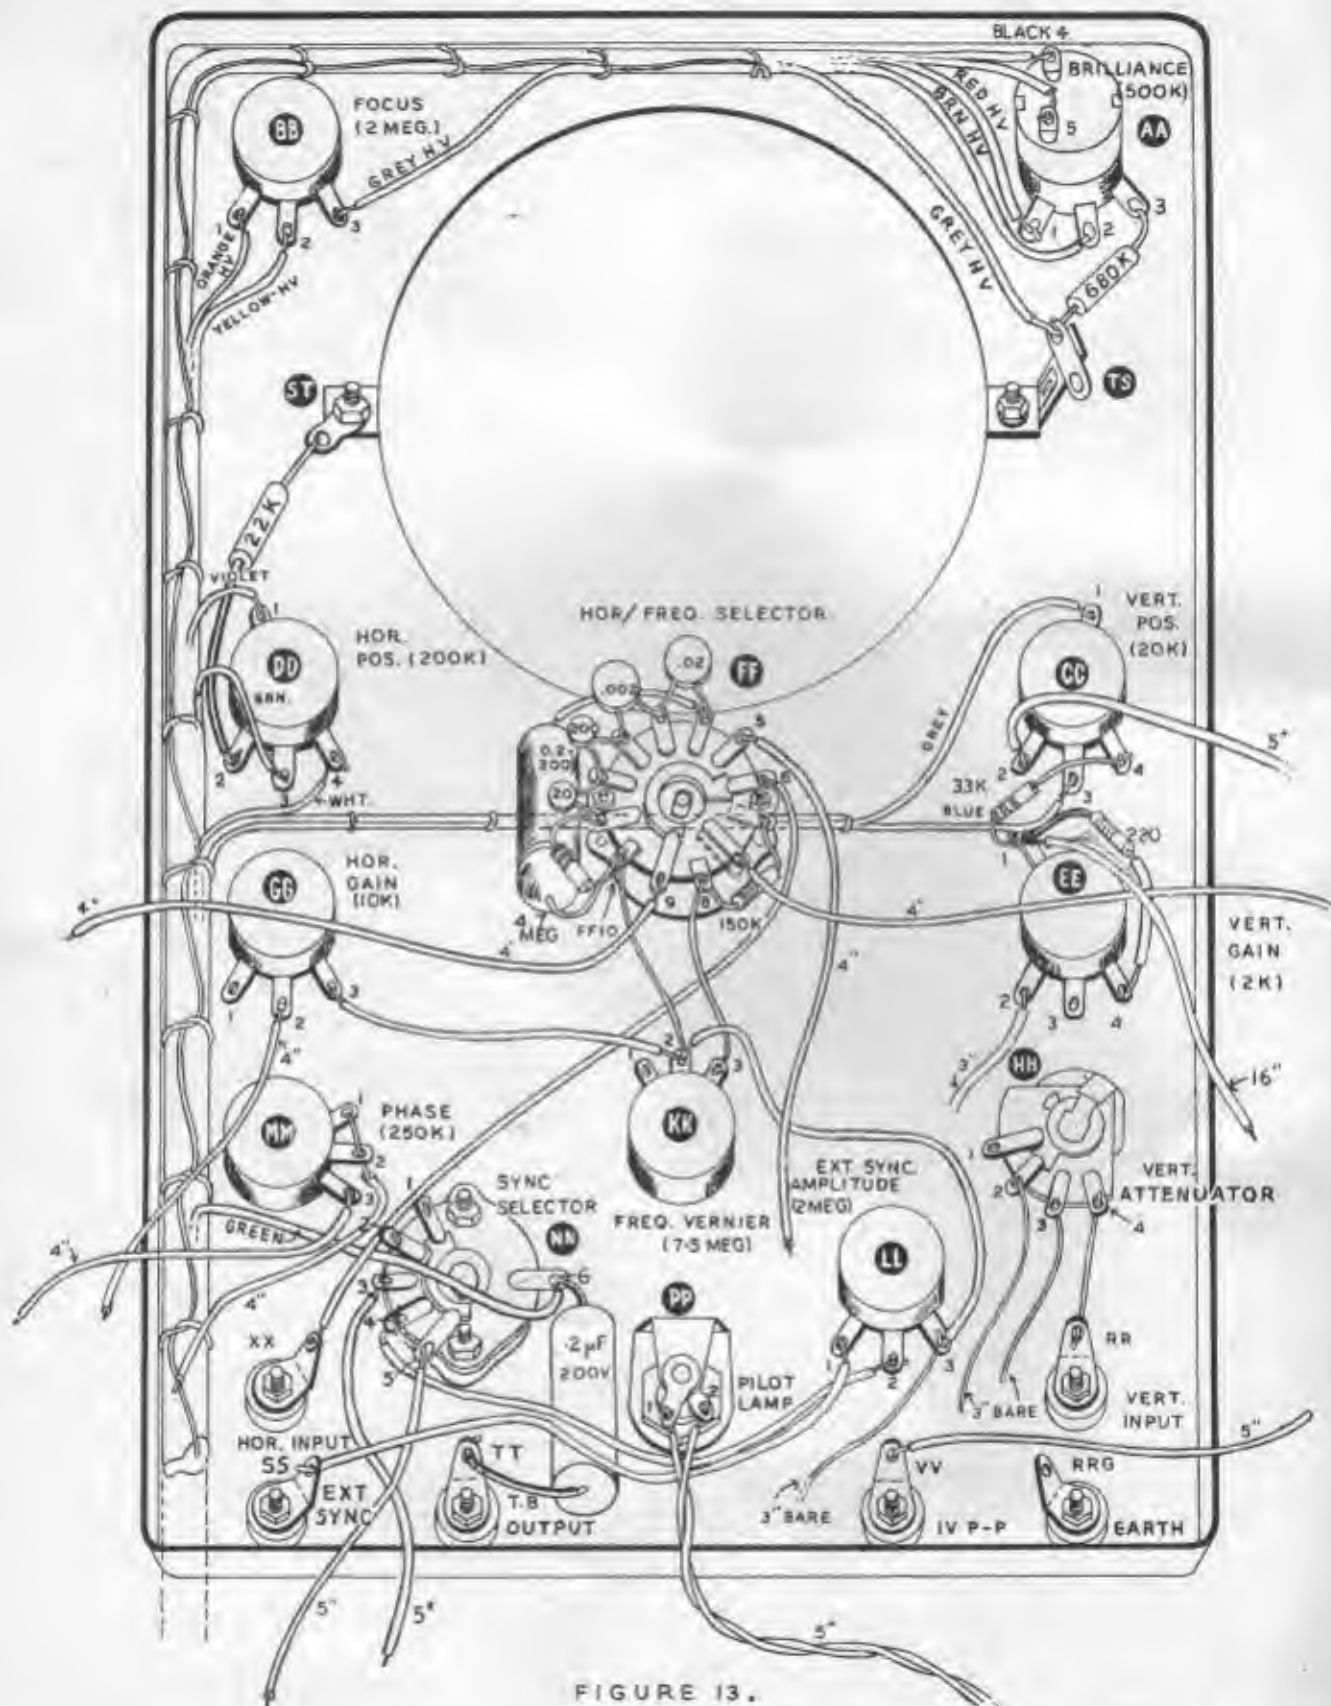

FIGURE 13.
- ( ) Connect a 680 K $\Omega$  1 watt resistor (BLUE, GREY, YELLOW) from AA3 on the BRILLIANCE control (S-1) to TS (NS). See Figure 13.
- ( ) Connect a 33 K $\Omega$  resistor (ORANGE, ORANGE, ORANGE) from CC4 on the VERT. POS. control (S-1) to EE1 on the VERT. GAIN control (NS).
- ( ) Connect one lead of a 0.2  $\mu$ F 200 volt tubular capacitor to NN6 (use sleeving) (NS) and the other lead to TT (use sleeving) (S-1).
- ( ) Connect one end of a 4" length of wire through MM2 on the PHASE control (NS) to MM1 (S-1). Now solder MM2. Leave the other end free.
- ( ) Connect one end of a 4" length of wire to MM3 (NS). Leave the other end free.
- ( ) Identify the panel end of the cable assembly or harness. This is the end with five leads, two BLACK conductors with thin insulation and three conductors with thick, or high-voltage insulation. These high-voltage conductors are colour coded BROWN, GREY and RED. The abbreviation HV, will refer to the conductors with heavy-wall insulation. Refer to Figure 13.